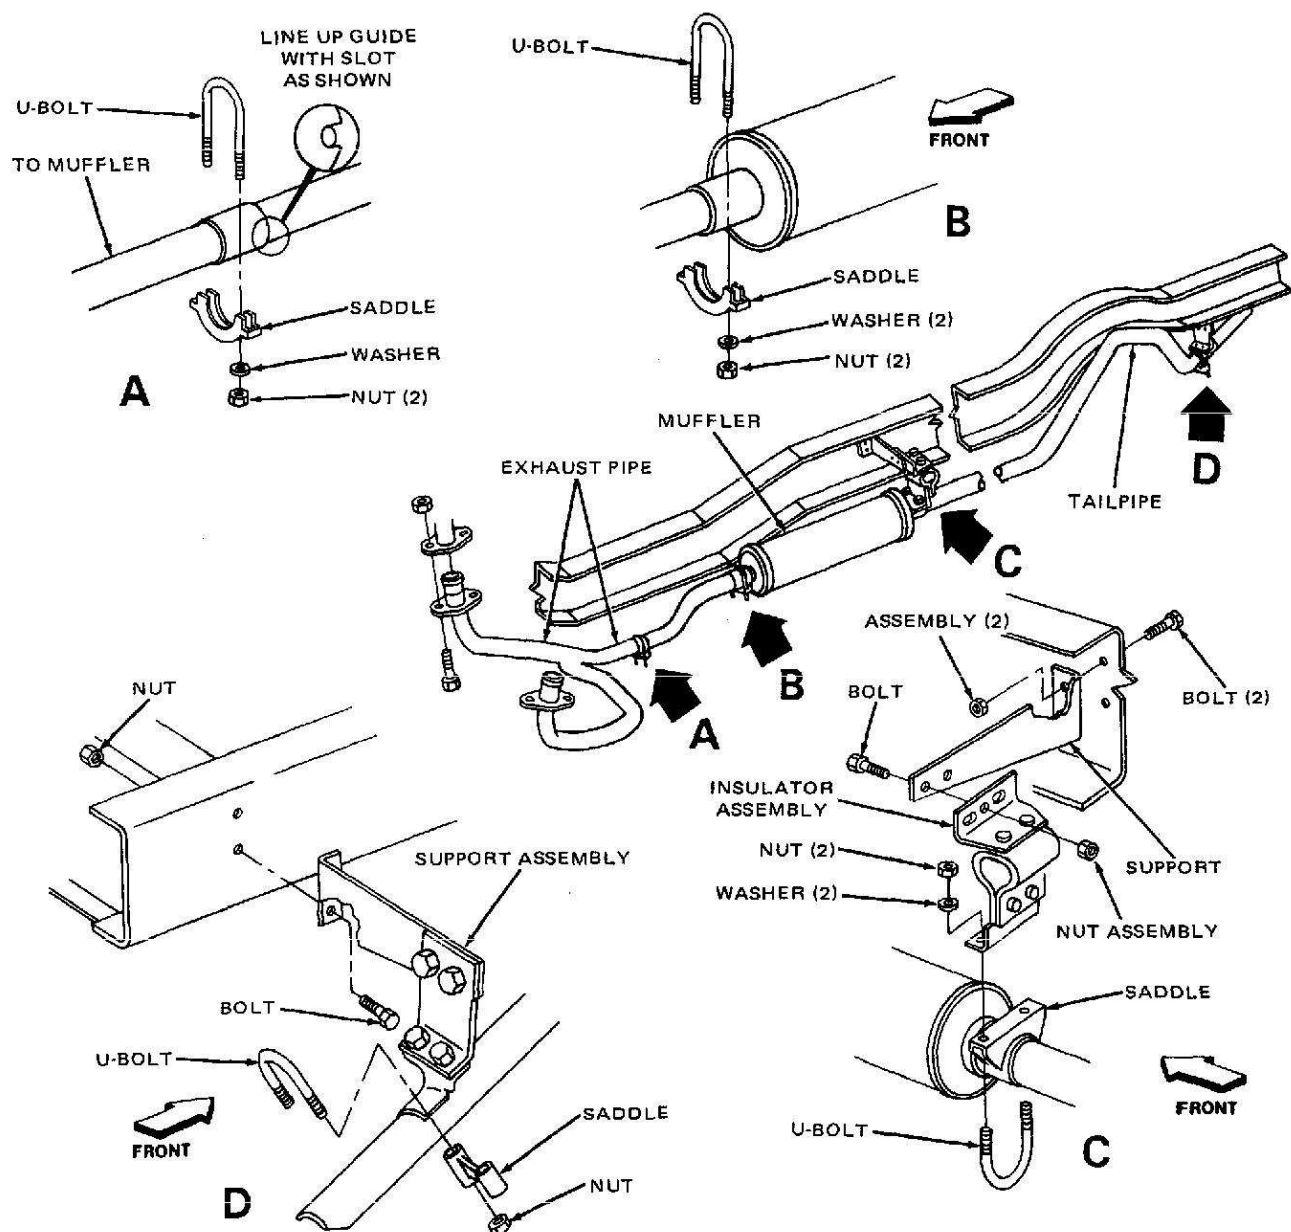

Figure 2-59. Exhaust System.
See figure 2-59 for the following procedures.
- (1) Put the front exhaust pipe on the exhaust manifold. Do not fully tighten the flange.
- (2) Loosely assemble the rear exhaust pipe, muffler, and tailpipe. Line up the guide with the slot, if a guide is provided.
- (3) Aline the exhaust system, making sure that everything is in its proper place.
- (4) Tighten nuts and bolts in accordance with figure 2-59.